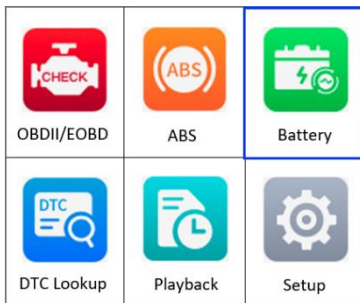

Figure 6-1 Main Screen
- 3) Use the **UP/DOWN** scroll button to select **Battery** from the Main Screen (Figure 6-1) and press the **OK** button.